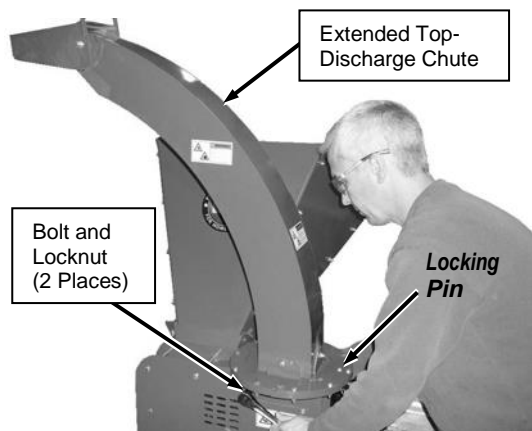

Figure 65
3. Position the Extended Top-Discharge Chute onto the Chipper with the Locking pin on the outside (side furthest away from the hopper) (**Figure 65**).